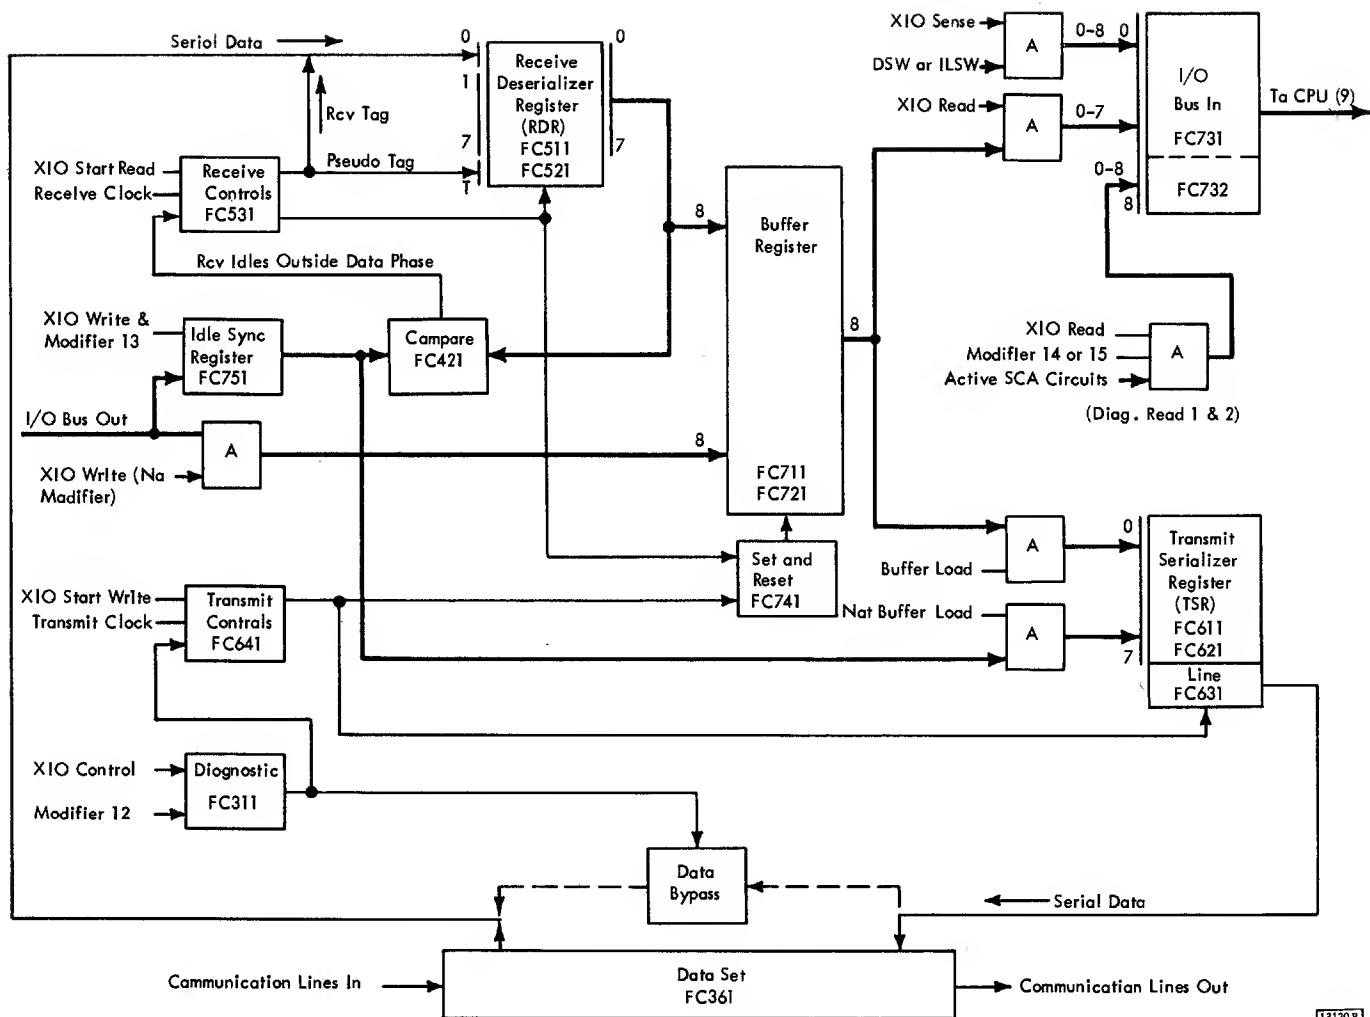

Figure 6-7. Data Flow (SCA)
- Data flow within the adapter is shown in Figure 6-7.